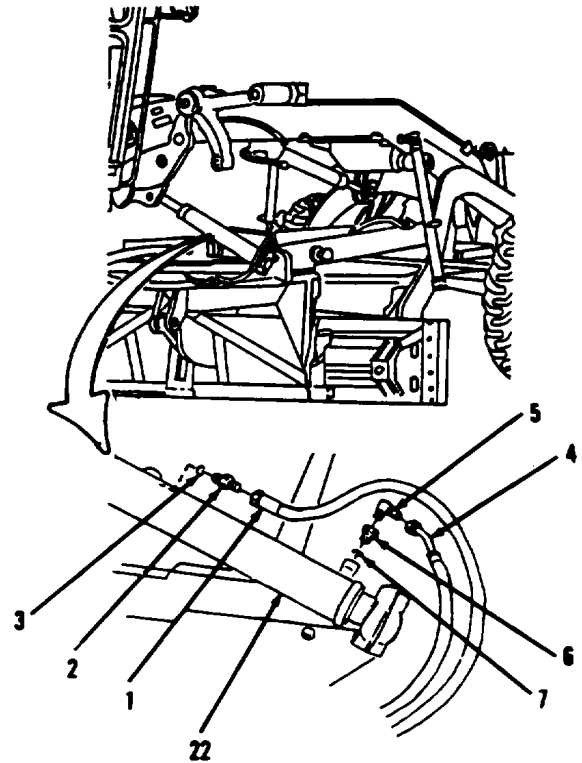

Figure 10-121.
1. Disconnect hose assembly (1, Figure 10-121).
2. Remove connector (2) and preformed packing (3). Discard preformed packing (3).
3. Disconnect hose assembly (4).
4. Remove elbow (5), connector (6) and preformed packing (7). Discard preformed packing (7).